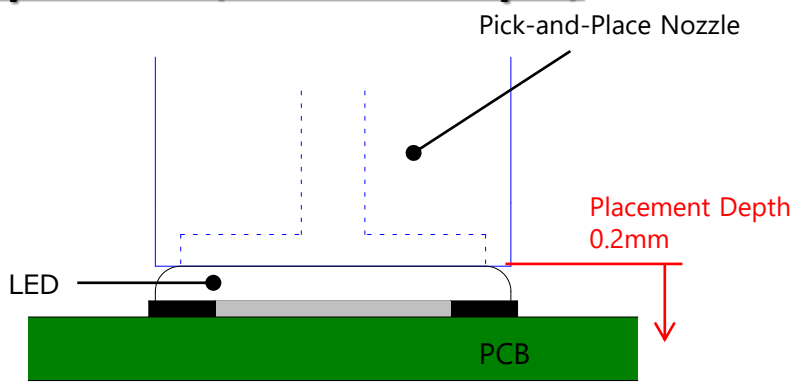

Figure 8. Recommended Nozzle Height for Placement (Placement Depth)
- Using the recommended reflow soldering conditions (See Figure 8 to the left) as a reference, modify if necessary, the recommended reflow conditions specified by the manufacturer of the solder paste being used.